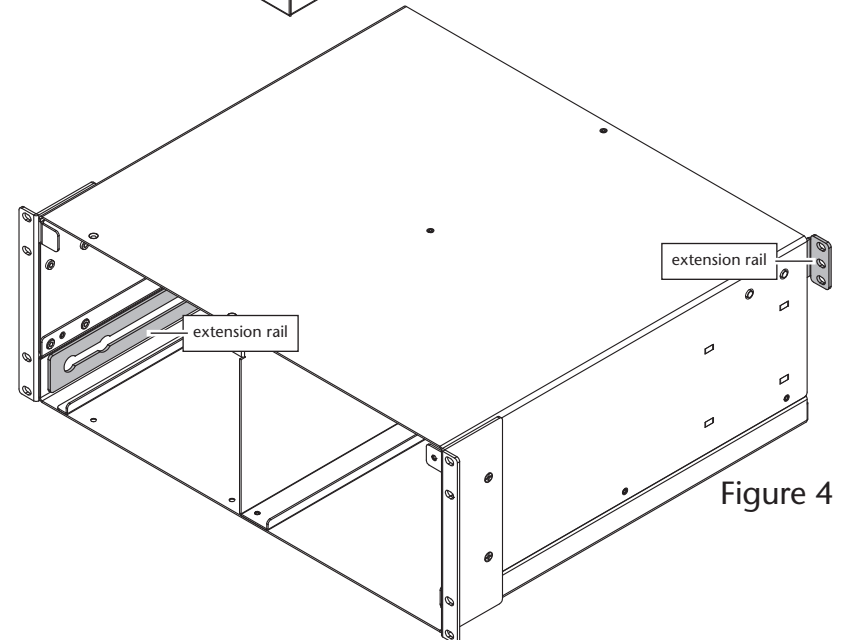

Figure 4
5. **OPTIONAL STEP:** If you are installing the RackMac Pro into a rack where mounting support for the back of the rackmount enclosure is not possible, you may slide out and remove the extension rails at this time (**Figure 4**).